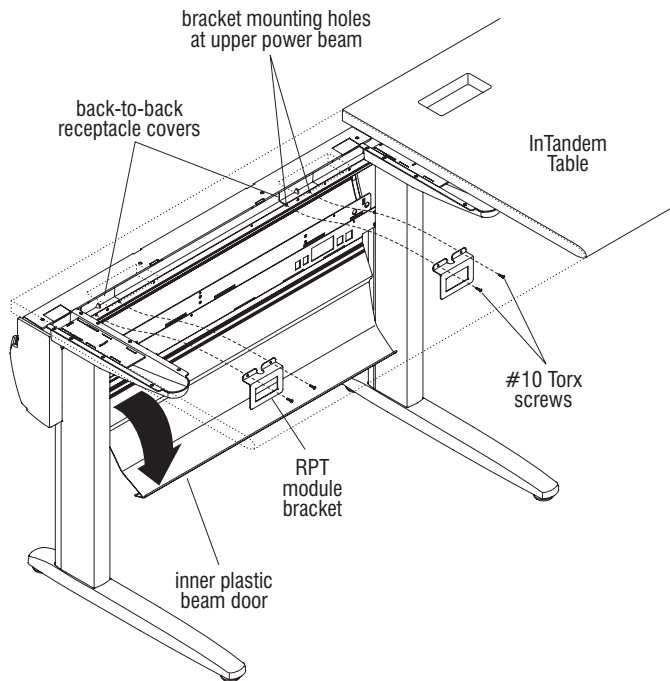

Figure 3 - InTandem Table System
1. Open the inner plastic beam door at the inside, rear of the table to expose the upper power beam. Locate the two RPT module bracket mounting hole locations near the back-to-back receptacle covers. One pair of mounting holes is at each end of the beam as illustrated (Figure 3).
2. Position the RPT module bracket up to the power beam as illustrated and use the #10 self-tapping Torx screws to secure the bracket to the beam (Figure 3).